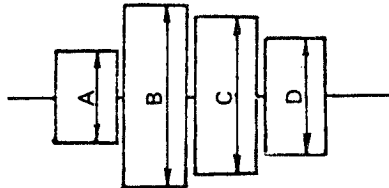

Fig. 3-6 Waveforms of TP2 + TP3
- 7) When the ratio (small/large) of the waveforms A to D in Fig. 3-6 is lower than 0.65, and the ratio of B to C is lower than 0.8, loosen the eccentric pin fixing screw with the hexagonal wrench key.